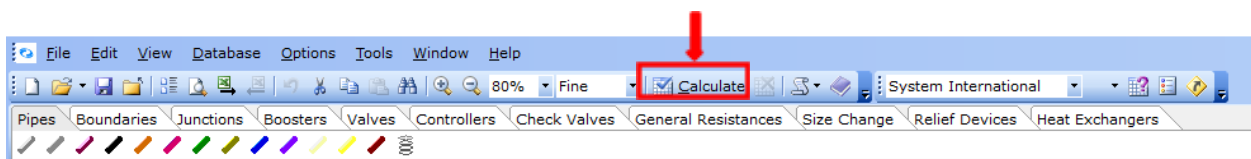

Figure 29: Calculate Button.
29. Calculate the model using the *Calculate* button located at the top of the flowsheet (Figure 29):